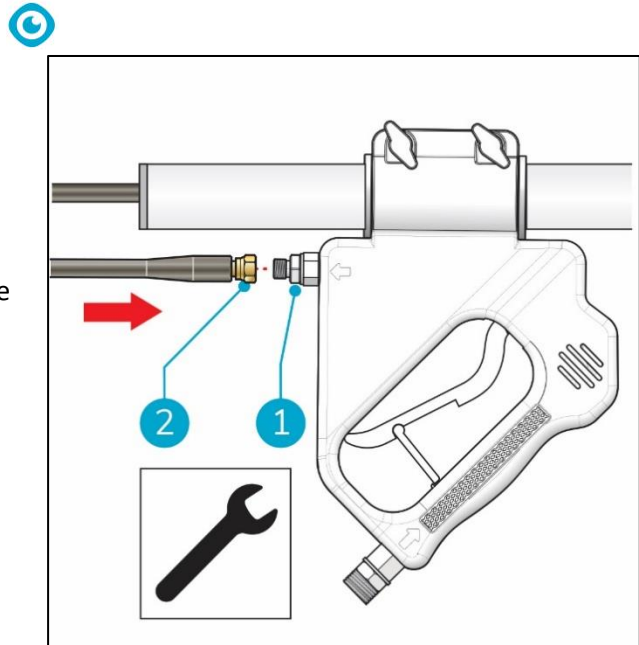

Figure 14
13. Check the nut of the transition joint (Figure 14, pos 1), turn clockwise with a 19 mm wrench to tighten it, in case it is loose.
14. Connect the hose with the rubber cover to the power handle and turn the nut clockwise with a 19 mm wrench (Figure 14, pos 2) to tighten it.